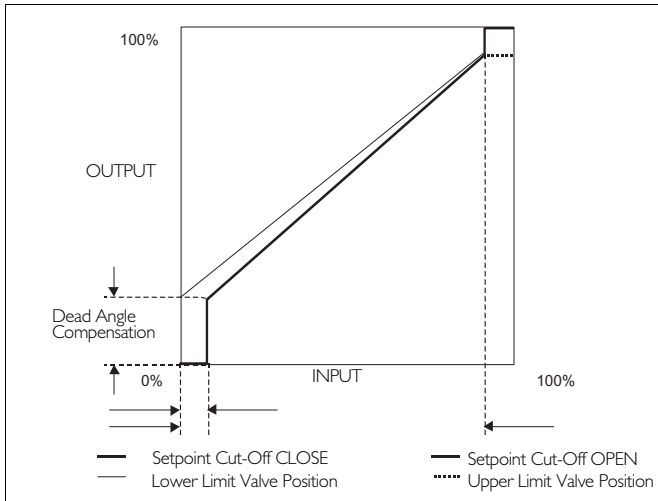

Fig. 11. The input signal modifications accomplished using Dead Angle compensation, Cut-Off and Limit functions
See keyboard operations (Fig. 11).
- When input signal goes below the defined value, the valve is driven to the CLOSED position, see Fig. 11.
- When input signal goes above the defined value, the valve is driven to the OPEN position, see Fig. 11.
- Valve position is never allowed to go below this value. The only exception is fail-safe situation. See Fig. 11.
- Valve position is never allowed to go above this value. The only exception is fail-safe situation. See Fig. 11.